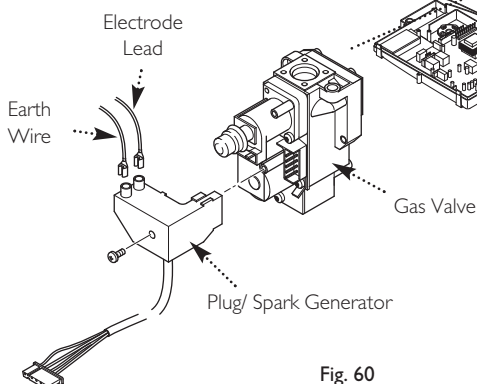

Fig. 60
12.17 Gas Valve Plug/Spark Generator (Fig. 60)